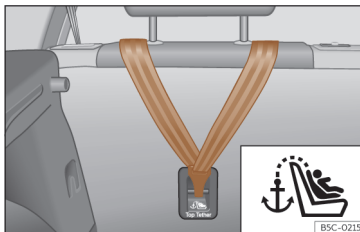
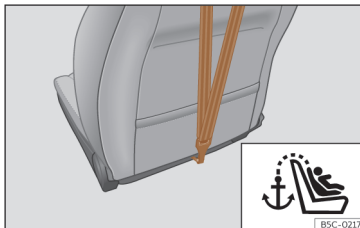

Fig. 43 Rear part of the rear seats: Top Tether belt anchor.
Fig. 44 Rear of front passenger seat backrest: Top Tether belt anchor (not available on all markets).
is located on the rear of the rear seat backrest and of the front passenger seat backrest¹⁾ (identified with the symbol ) and provides better retention >>> **Fig. 43**, >>> **Fig. 44**.
- Slide the belt and secure it properly with the anchor on the rear seat backrest >>> **Fig. 43**, >>> **Fig. 44**.